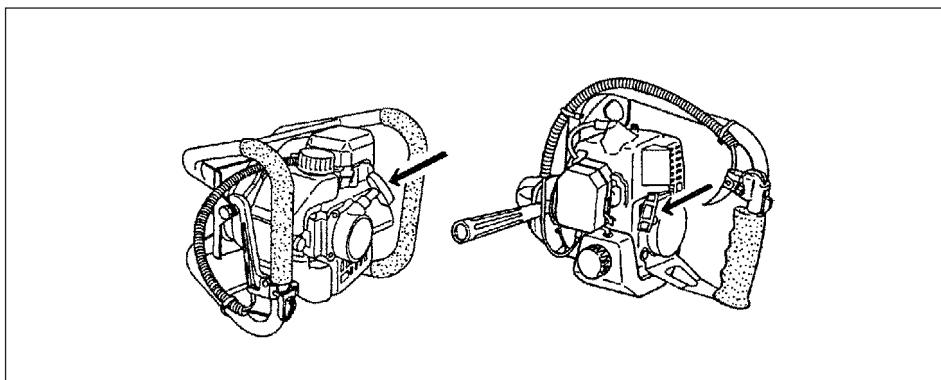

Fig. 2-4
3. Pull recoil starter briskly, taking care to keep the handle in your grasp and not allowing it to snap back. (Fig. 2-4)